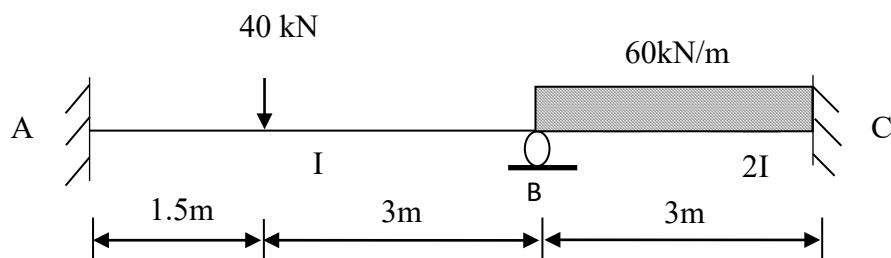

Figure B3(c) / Rajah B3(c)
- (c) Figure B3(c) shows 40kN of point load acting at span AB and 60kN/m uniformly distributed load acting along span BC.